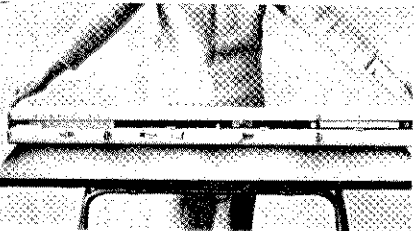

Fig. 3
3. Lift the upper case slightly and pull towards you. (See Fig.3)